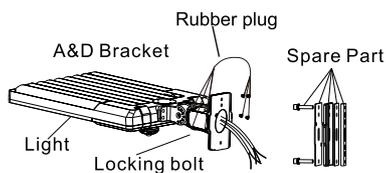

Figure 19
Step 1: Remove the spare parts from A&D bracket. (Figure 19).